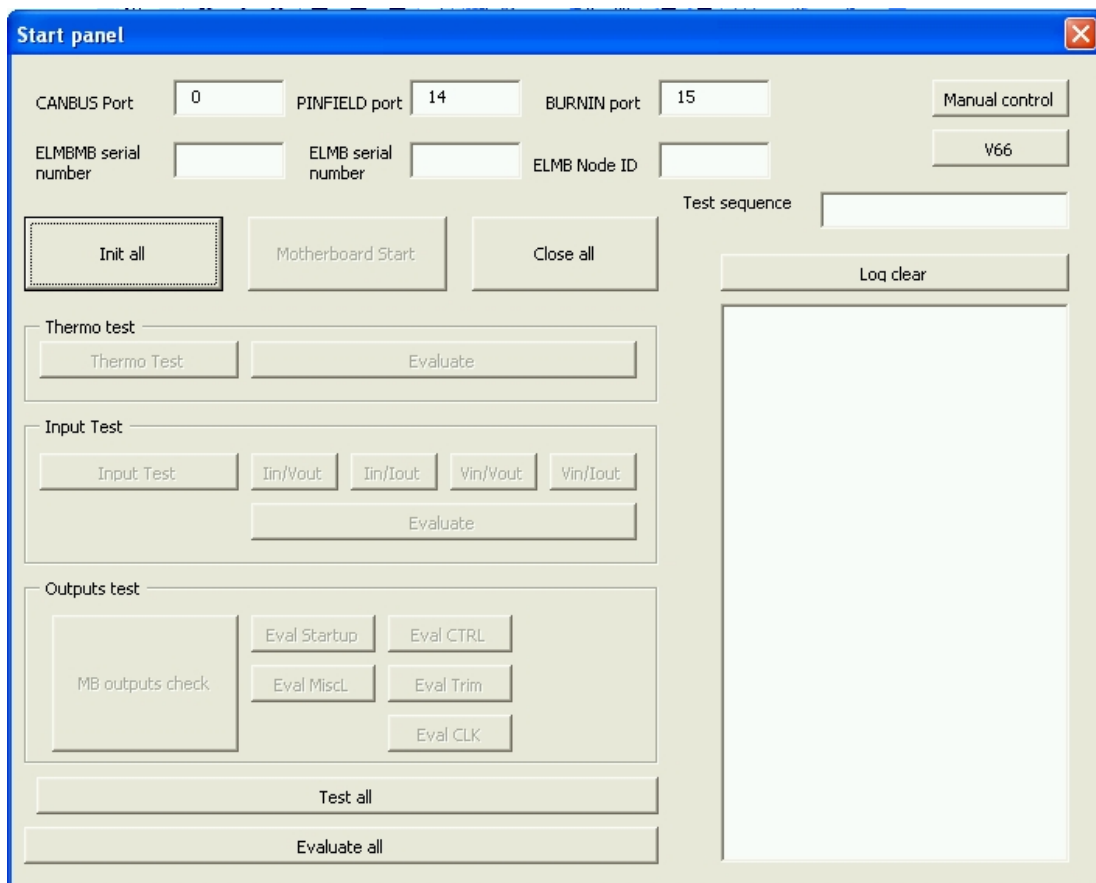

Fig.9. ELMB\_MB tester Start Panel in the *ELMB\_MB\_Tester.xls* sheet.
- 4) Start ELMB\_MB tester panel by “CTRL-S”, see displayed menu in Fig.9.